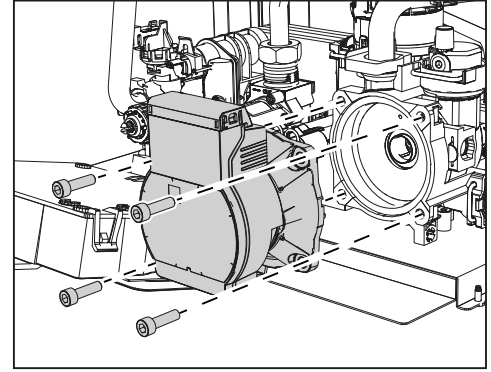

fig. 33
- Unscrew and remove the circulating pump motor assembly (fig. 33)